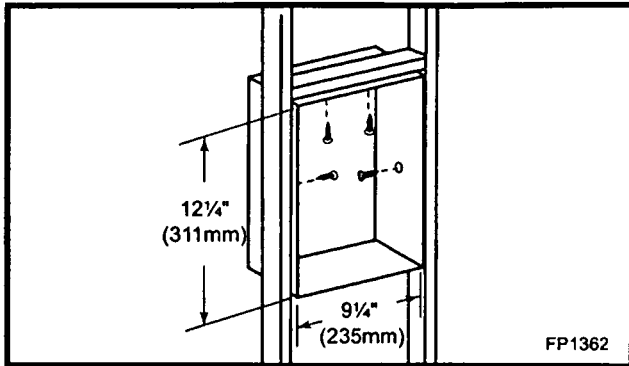

Fig. 8 Valve box framing.
6. To secure the valve box assembly to the framing members, open the box door, remove extension knob(s), remove the valve cover by removing the two (2) screws securing the valve cover to the box, hold the cover plate with one hand and disconnect the wires to the switch and pilot indicator (R models only). **NOTE:** Do not allow the valve cover plate to hang from the pilot indicator wires as this could damage the wires. Secure the box to the framing through the two (2) holes at the top and one (1) on each side using sheet rock screws. (Fig. 8) After framing the box, replace the wires, the valve cover, the extension knob(s) in reverse order. **NOTE:** The pilot indicator body is labelled +/-, make sure the positive wire on the pilot indicator goes to ground and the negative goes to the plug between the valve and the thermocouple.